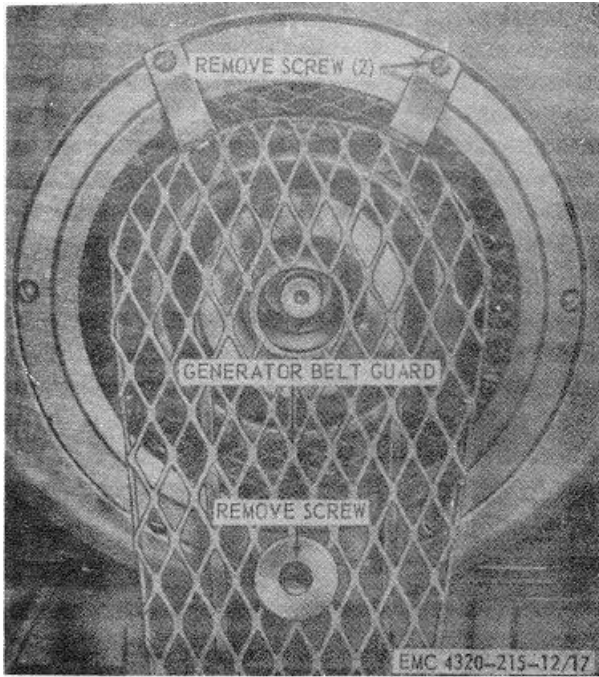

Figure 17. Generator belt guard, removal and installation.
a. Remove and install the generator belt guard as shown by figure 17.